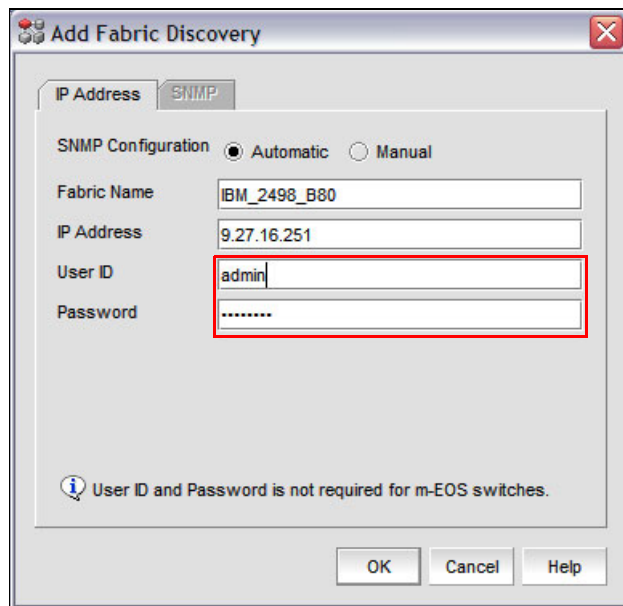

Figure 6-163 Add Fabric Discovery window
8. On the IP Address tab, enter a fabric name for the Top of Rack (TOR) switch, IP address, and login credentials (the defaults are admin/password), as shown in Figure 6-163.